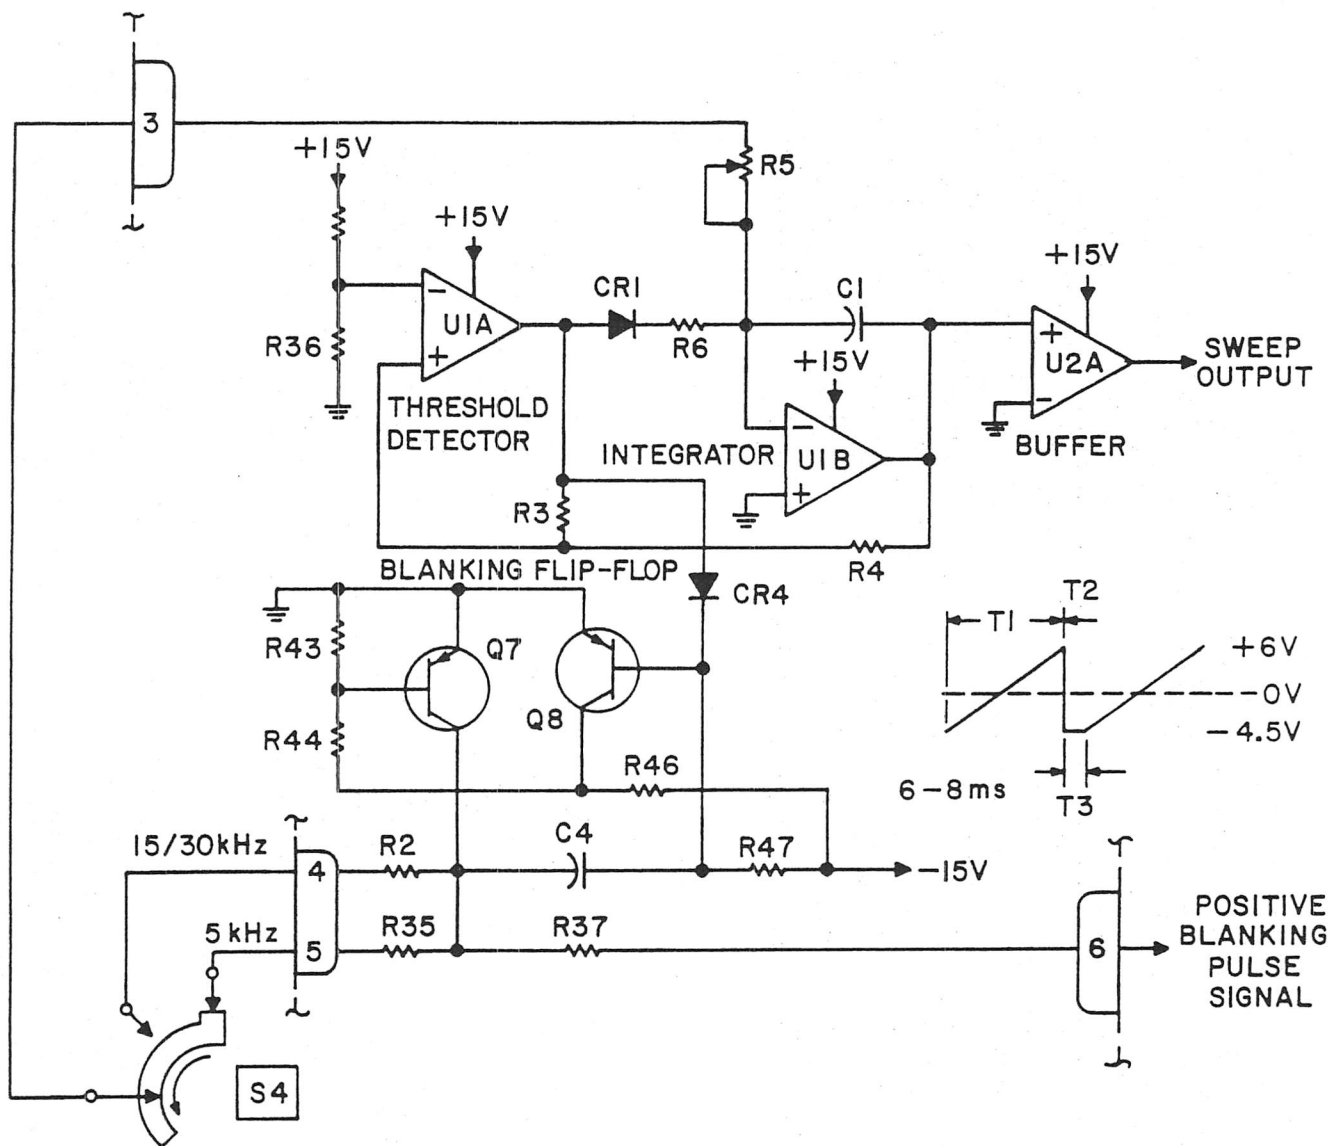
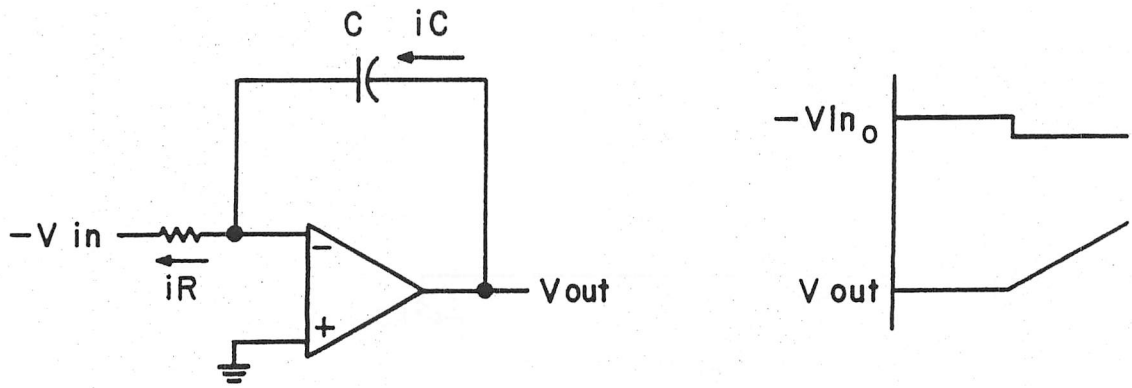

Figure 3-5. Sweep Voltage Generator, Simplified Schematic Diagram
Figure 3-6. Integrator Current Flow
3.2.6.1 Sweep Voltage Generator (Figure 3-5)
Operational Amplifiers (OP AMP's) U1A, U1B, and U2A, and cross-coupled PNP transistors Q7 and Q8 comprise the essential circuit elements to generate the sawtooth sweep voltage and associated blanking pulse. Because of the complexity of the sweep voltage generator network, general operating characteristics of the three primary functional areas of the network will be described, followed by an overall discussion. The three primary functional areas are integrator, threshold detector, and one-shot multivibrator (flip-flop). Figure 3-5 (page 3-7) illustrates the sweep voltage generator.
U1B is an OP AMP with a capacitive feedback element, C1. There are two resistive paths connected to the inverting input at pin 6, a virtual ground point. If voltage is suddenly applied across either resistive input, C1 will charge in a linear manner. Figure 3-6 illustrates the resultant current flow. C represents the capacitive feedback element; R represents the resistive input path.
Referring to Figure 3-6, assume that the input voltage, V in, suddenly changes from zero to a value, $-V$ in. Current, which comes from C , flows through R . Current flows for a time (t) corresponding to a charge ($q = i \times t$) which comes from the capacitor. The charge could have come only if V out had increased from zero to a voltage expressed as $q = CV$ out. The result is that V out is a positive-going voltage that increases linearly with time, or a ramp, as shown in Figure 3-6. The inverting property of the OP AMP converts the negative input step voltage to a positive-going ramp.
Assume that the collector of Q7 is at -15 V (Q7 off). The negative voltage is applied across the series resistive network of R2 and R5, or across R35 and R5, determined by the setting of the front panel switch, S4. A negative current flows at the inverting input of U1B, as shown in Figure 3-6. The output of U1B is a positive-going ramp, T1 in Figure 3-5. When the U1B output transitions to +6 V, threshold detector U1A triggers to the positive saturation state causing two simultaneous events.
2. The positive voltage output of U1A is applied through CR1 and R6 to the inverting input of U1B, causing the integrator to reverse states and produce a negative-going retrace, T2 in Figure 3-5.
As soon as the integrator output reaches -4.5 V on its downward swing, the threshold detector again reverses states. The integrator remains in a quiescent condition, T3 in Figure 3-5, until the multivibrator changes state (after the discharge time of C4 through R47), when the cycle repeats.